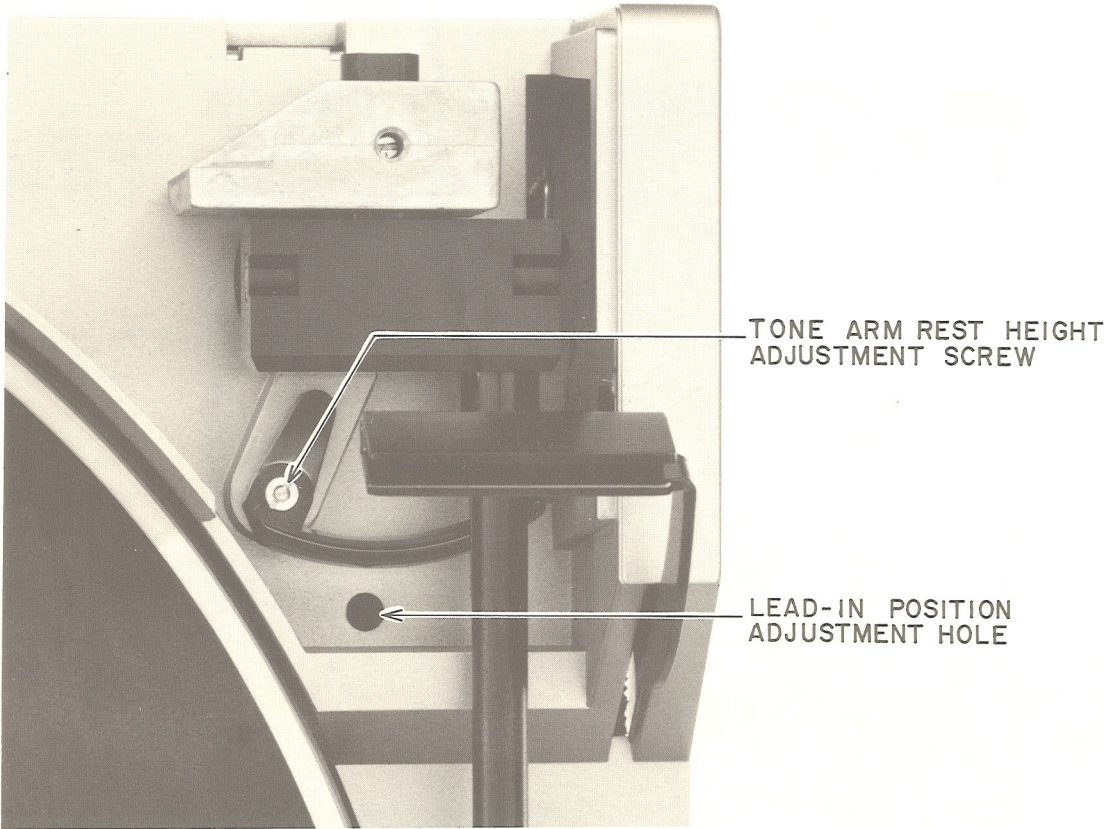

Fig. 5-1 Tone Arm Adjustment Points
- f) Adjust the lead-in position adjustment screw (see Fig. 5-1), until the stylus descends at the lead-in groove of a record.
- a) With tone arm in the up-position, the stylus should be 4 to 7 mm above the surface of the record. Turn the adjustment screw (see Fig. 5-1) to change the height.